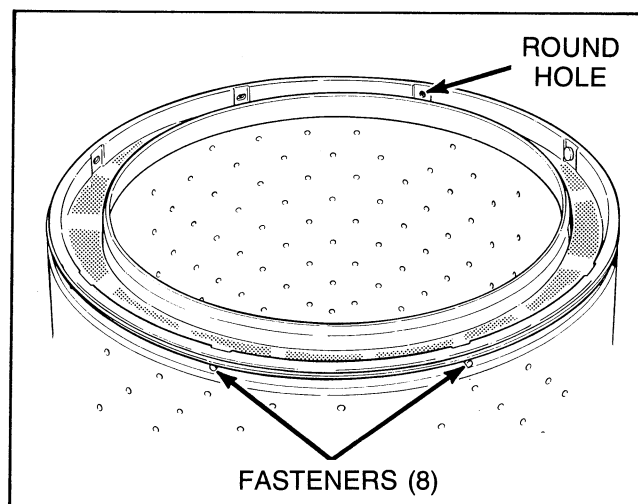

Figure 28
- g. Remove the eight fasteners holding lint filter to washtub, *Figure 28*.